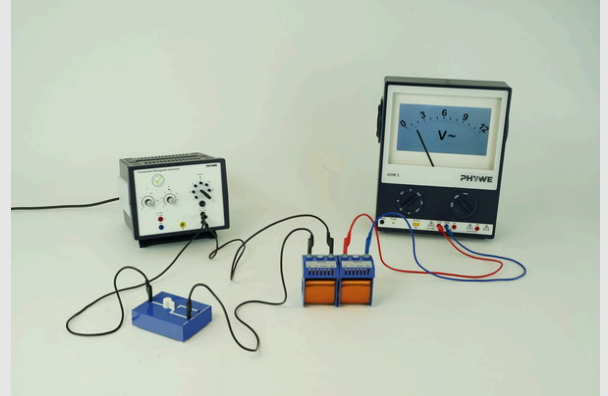

Fig. 1
- Set up the experiment according to Figure 1.